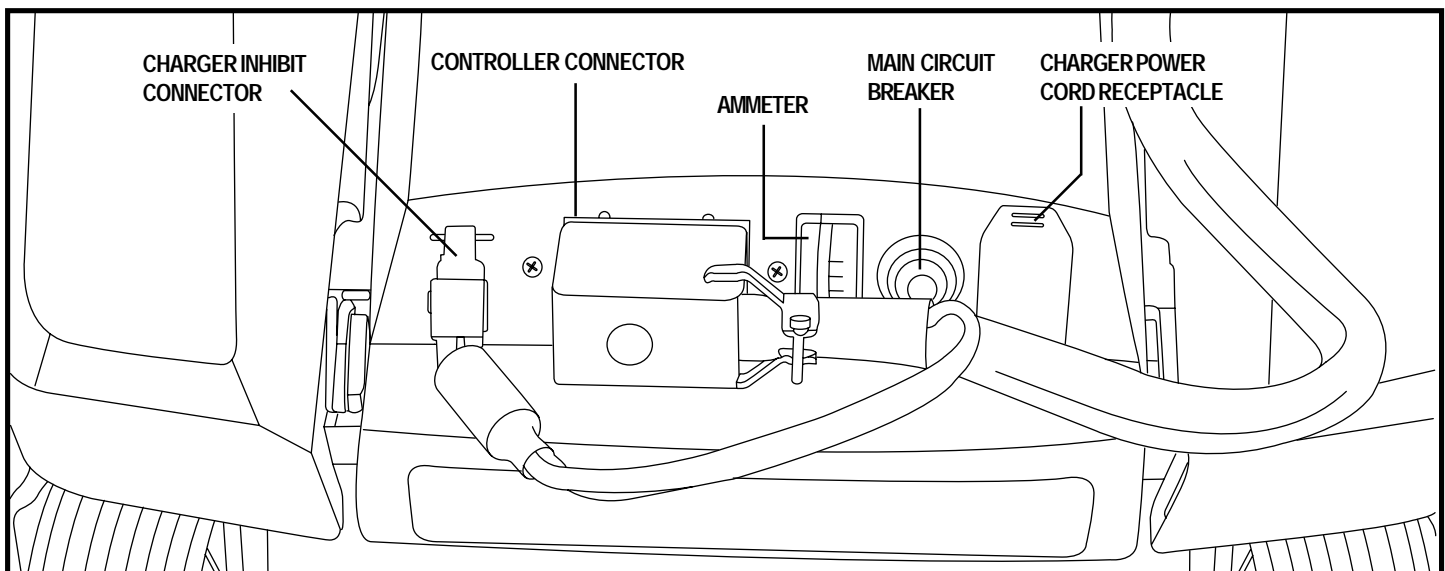

Figure 6. Electronics Tray
The electrical components consist of the controller, the batteries, and the motors. The batteries, motors, and controller power module (if equipped) are located on the power base assembly. The controller is located on the seat assembly. Connectivity between the controller and the motors, batteries, and the battery charger is provided by one or more wiring harnesses. See figures 6 and 7.
2. Disconnect the controller connector from the electronics tray. See figure 6.
3. Disconnect the charger inhibit connector from the electronics tray. See figure 6. Squeeze the latch release levers on the connector and pull it firmly from the socket.
9. Disconnect the battery connectors and the motor connectors from the power base. See figure 6.